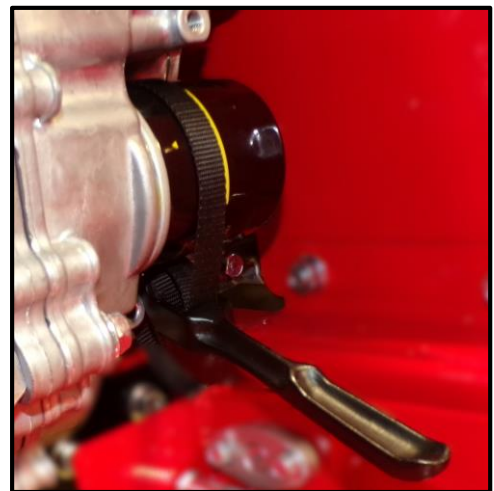

Figure 5 Oil Filter Removal
- Remove the old filters [Figure 5] using filter wrench as shown if required.